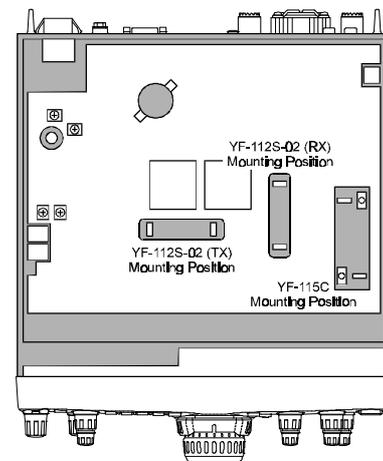

Figure 2
- ② Refer to Figure 2, and locate the mounting positions for the CW (YF-115C) and/or SSB (YF-112S-02) filters on the MAIN Unit.
- ③ Push the optional filter board(s) onto the pins corresponding to the assigned mounting location on the radio. Gently press the board(s) down until the pins are firmly seated in the connectors.
- ④ Replace the bottom case of the transceiver.
- ⑤ Turn the transceiver on, and enter the Menu mode. Per the details on page 88, change the setting of Menu #33 to “ON” if installing the YF-115C CW filter.